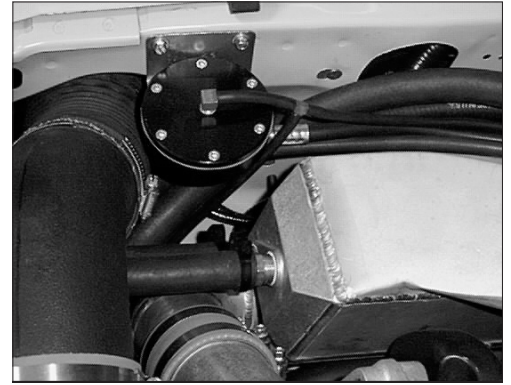

Figure 9-a
- B. Remount the FMU next to the air inlet (see *Figure 9-a*).